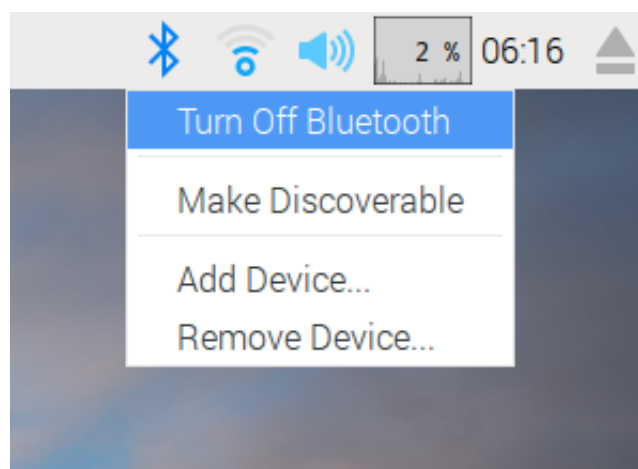

Figure 5: Switch off the Bluetooth® and connect to internet via WiFi
3. After booting the Raspberry Pi, switch off the Bluetooth® interface by clicking on the Bluetooth® button on the right upper corner of the screen (see figure 5).